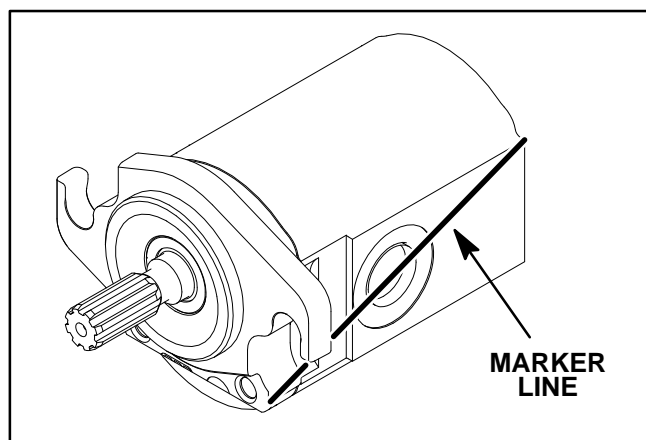

Figure 63
2. Use a marker to make a **diagonal** line across the front flange and body for assembly purposes (Fig. 63).